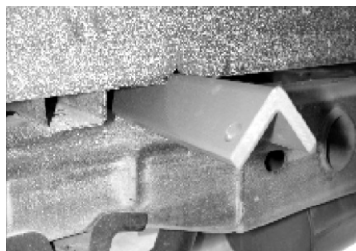
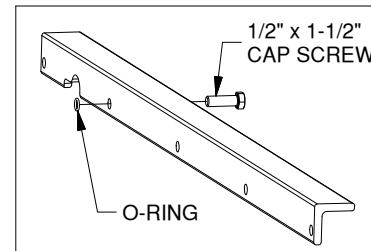

Figure B1.
Figure B2.
- 1. Install front cross member.** With the holes in the cross member facing the rear of the truck, slide the angle iron cross member between the truck frame and the bed using the notch that was made in the previous step as shown in Figure B1. Once you start sliding the angle across the frame of the truck, we recommend that you get under the truck and guide it across the frame rails taking care not to damage the brake lines along the driver side of the frame or fuel valve located on the back of the fuel tank on some models. Once the cross member is across the frame rails using the rubber O-ring provided, secure a 1/2" x 1-1/2" long bolt into the second hole in the cross member from the driver side, see Figure B2. Next, push the cross member forward until the cross member is about four inches in front of the four inch hole in the truck bed, making sure that the notch in the angle carefully goes over the brake lines and wiring harness.